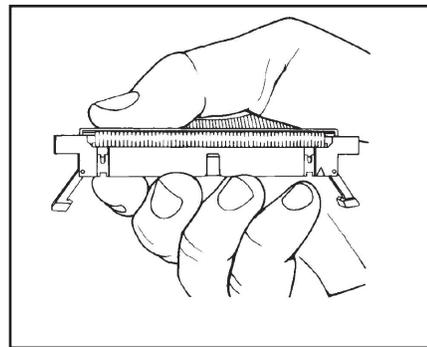

Figure 9
- c. Snap the other end of the strain relief into position. (Figure 9)